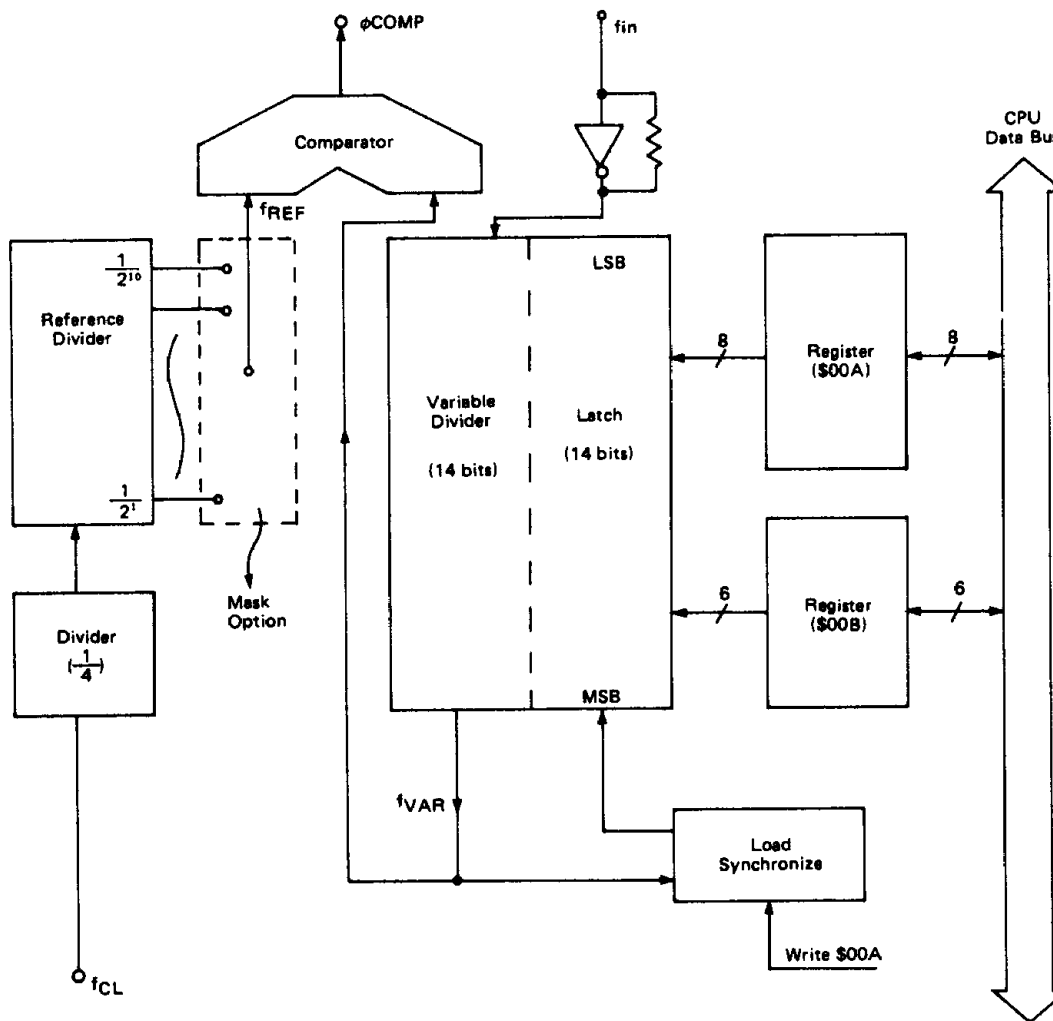

Figure 17 PLL Block Diagram
The variable divider, a 14-bit binary down counter, sends/receives data to/from the CPU through read/write registers which are located at \$00A in the case of the Least Significant (LS) byte and \$00B in that of the Most Significant (MS) byte. "1" is always read from the high-order two bits of the \$00B register. The variable divider counting zero will generate a preset pulse  $f_{VAR}$ . Fig. 17 provides a PLL block diagram where the 14-bit latch is reloaded to the variable divider.
A reference frequency,  $f_{REF}$ , is made by the 10-phase binary counter and is compared with the variable divider output. This reference divider is mask optional and the user can select any frequency as shown in Fig. 17.